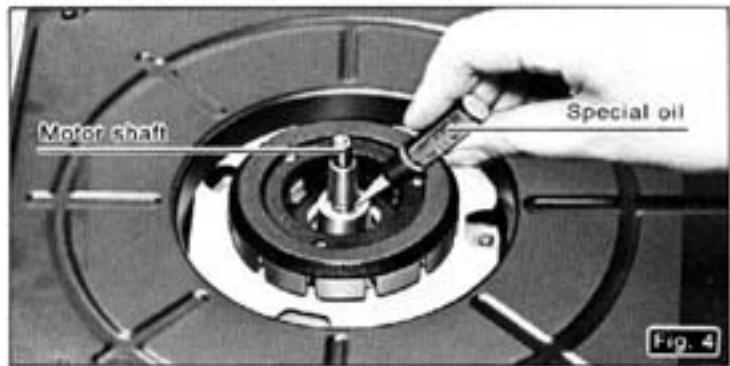

Fig. 4
**④ Apply two or three drops of oil to the motor shaft using the furnished oil container. (See Fig. 4).**